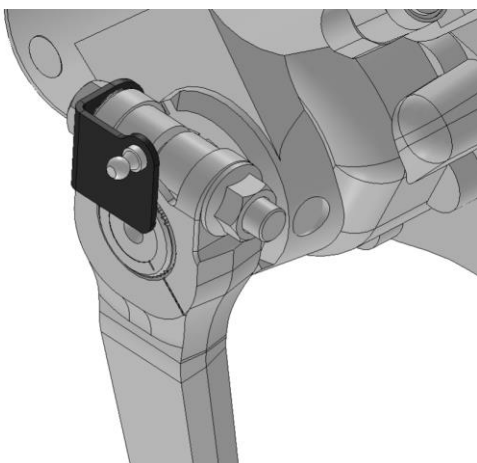

Figure 25. Steering Linkage Mount Installation.
5. Place Steering Mount in place as shown in Figure 25. Reattach bolts to secure Steering Mount to the steering gear box. **Torque to 120-140 ft-lbs.**